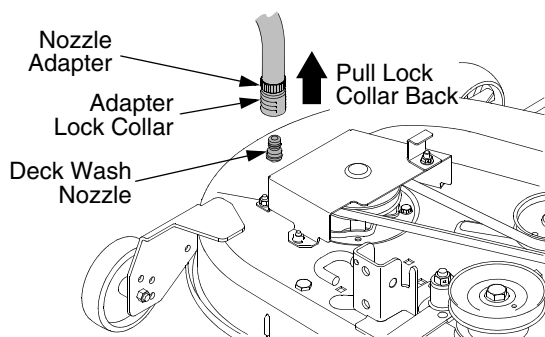

Figure 53
- Pull back the lock collar of the nozzle adapter and push the adapter onto the deck wash nozzle at the left end of the mower deck. Release the lock collar to lock the adapter on the nozzle. See Figure 53.